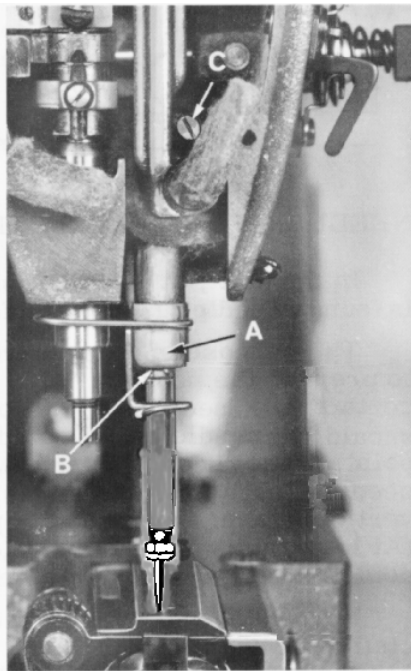

Fig. 13
When the needle bar is at its lowest position the upper timing line (B, Fig. 13) should be EVEN with the lower edge of the lower needle bar frame (A).
Remove throat plate. Loosen three set screws (A) in the hook, and hold the hook and the bobbin case holder in such a position as to prevent interference with the needle. Turn handwheel in operating direction until the needle bar is at its lowest position, and continue to turn the handwheel until the needle is ascending and the middle timing mark (Fig. 13) used in setting the needle bar is even with the lower edge of the needle bar frame (A).